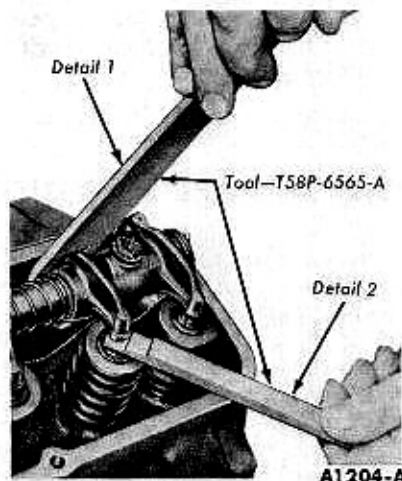

FIG. 2—Valve Clearance
2. Install the hydraulic lifter compressor tool on the rocker arm and slowly apply pressure to bleed down the hydraulic lifter until the plunger is completely bottomed (Fig. 2). Hold the lifter in the fully collapsed position.
Upon replacement of a valve push rod and/or valve rocker arm shaft assembly, the engine should not be cranked or rotated until the hydraulic lifters have had an opportunity to leak down to their normal operating position. The leak down rate can be accelerated by using the tool shown in Fig. 2 on the valve rocker arm, applying pressure in a direction to collapse the lifter.